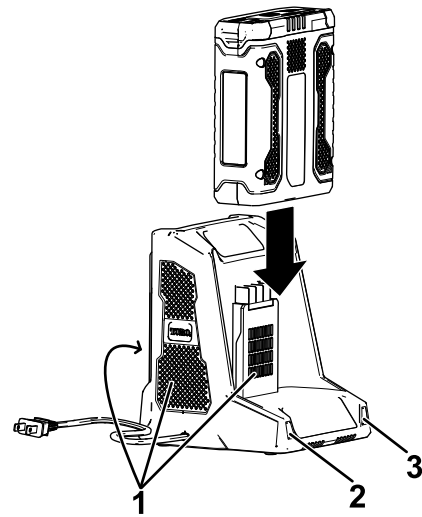

**Figure 10**
2. Line up the cavity in the battery pack (Figure 10) with the tongue on the charger.